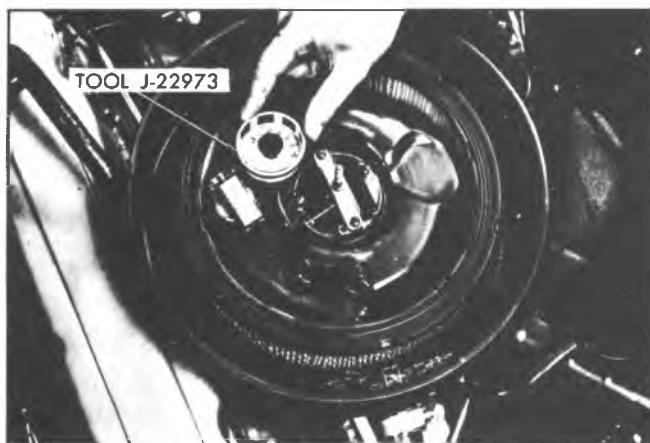

Fig. 12A--Temperature Gauge Installation
1. Remove air cleaner cover and install temperature gauge (Tool J-22973) as close as possible to sensor (fig. 12A).